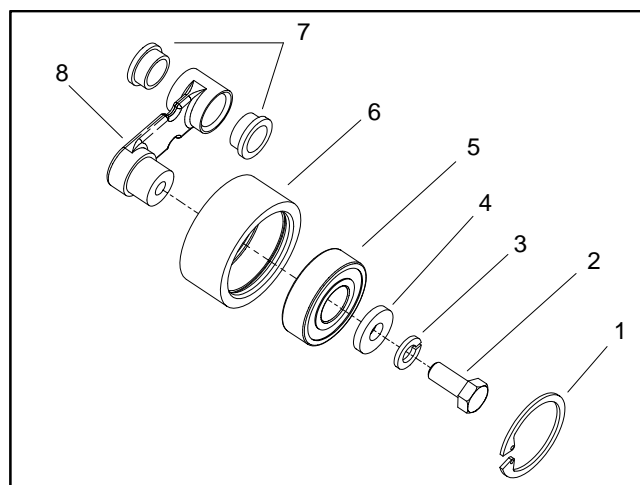

Figure 11
3. Retain cap screw (item 1) while loosening flange nut that secures idler assembly to groomer plate. Remove idler assembly. Make sure to locate and retrieve idler arm spacer and torsion spring.
4. Disassemble idler assembly as needed using Figure 11 as a guide.
1. Assemble idler using Figure 11 as a guide.
2. Position idler assembly, spacer and torsion spring to cap screw (item 1) and groomer plate. Secure idler assembly with flange nut.